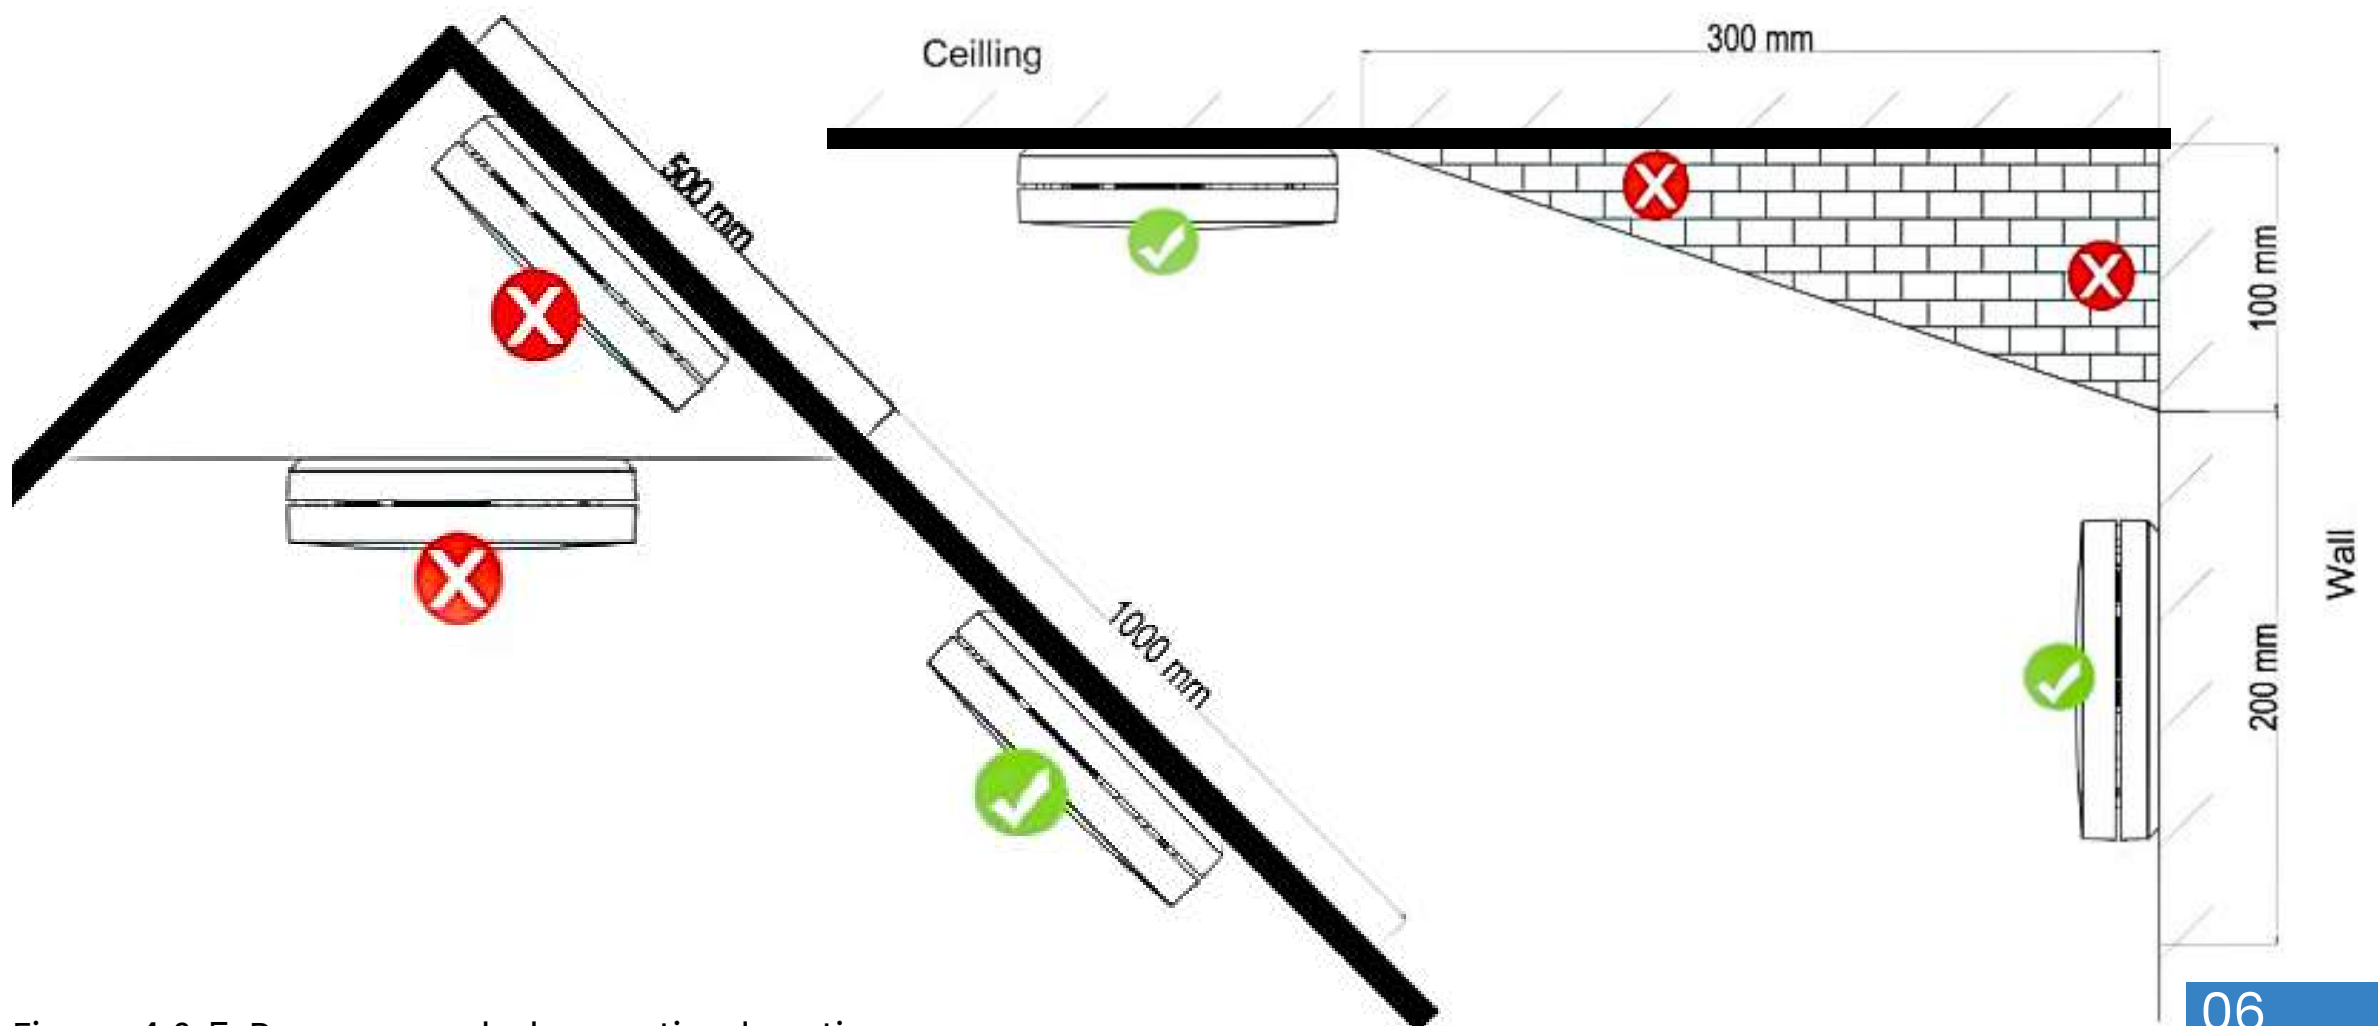

Figure 4 & 5: Recommended mounting locations
- Check figure 4 and 5 for correct mounting locations. Most EU countries require smoke detectors on all floors and escape routes.